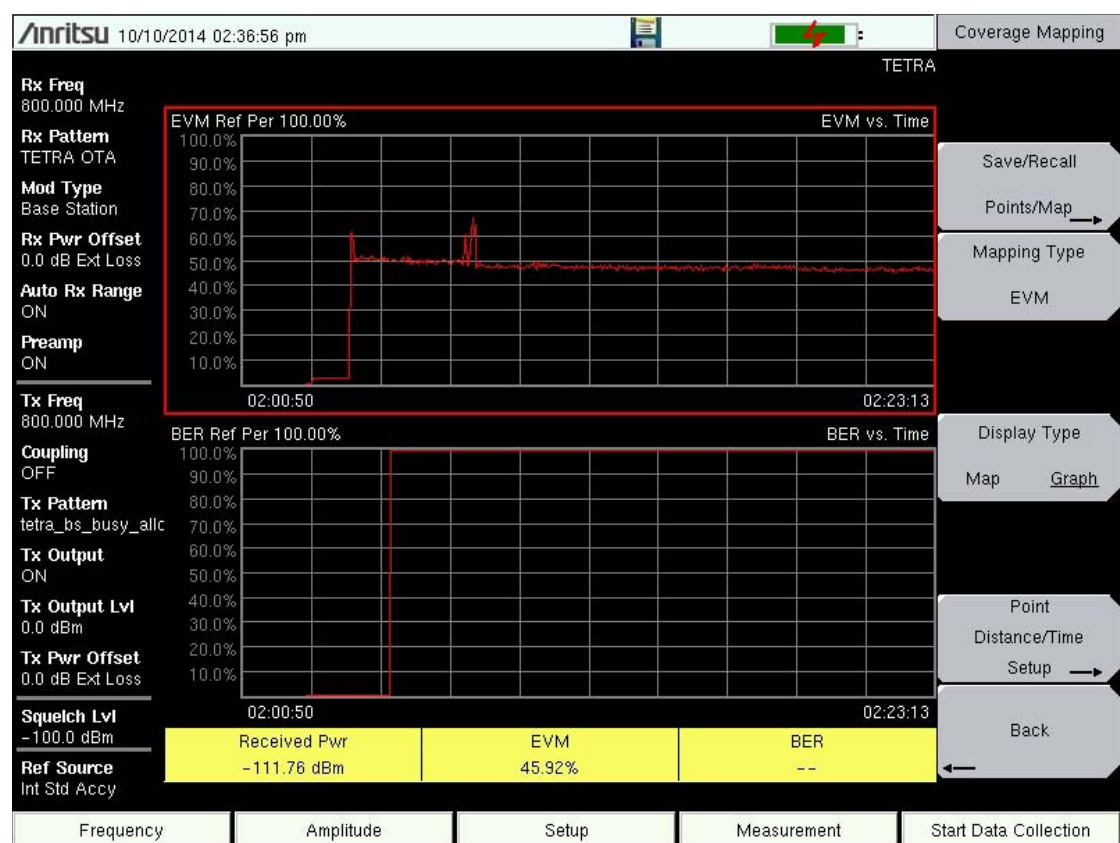

Figure 10-9. Display Type = Graph
3. If the Display Type is Map, then press the Display Type key again to toggle the setting to Graph. The display then shows two graphs. Figure 10-9 shows the Graph Display Type for TETRA analyzer. The two graphs may be any two types from the Mapping Type selection list. The figure shows EVM and BER plotted versus time.
The graphs shown in Figure 10-9 on page 10-20 display EVM versus Time and BER versus Time for a weak signal from a TETRA base station. With this weak signal, the EVM is quite high, approximately 50 %. The EVM should be under 5 % for a strong signal.